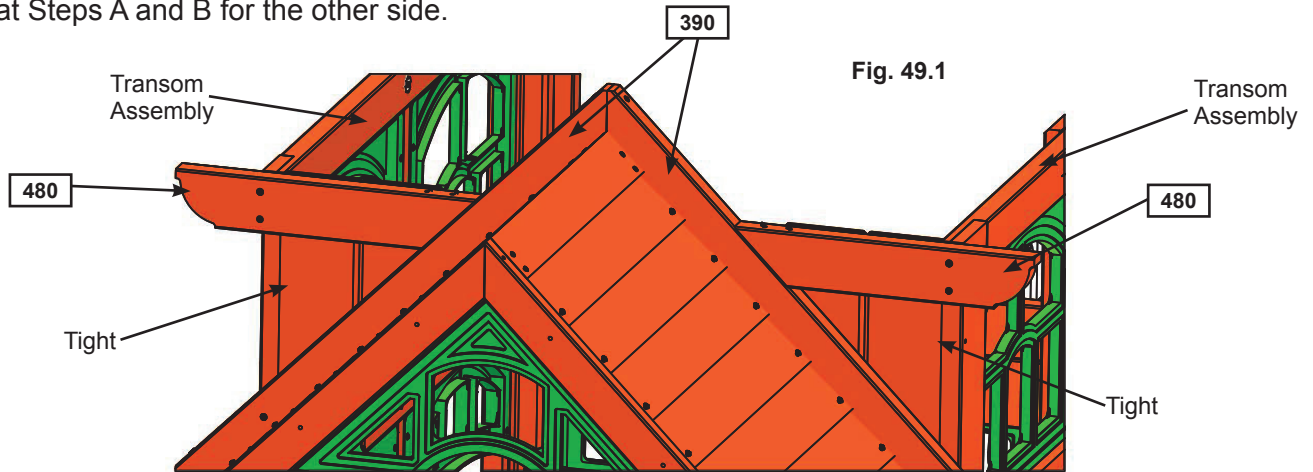

Fig. 49.1
A: Tight to 1 Transom Assembly and flush to the bottom of (390) Mid Roof Support attach 1 (490) Transom Board A to (390) Mid Roof Support and (480) Long Roof End with 4 (S20) #8 x 1-3/8" Wood Screws. (fig. 49.1 and 49.2)
B: Tight to (490) Transom Board A and flush to the bottom of (390) Mid Roof Support attach 1 (491) Transom Board B to (390) Mid Roof Support and (480) Long Roof End with 4 (S20) #8 x 1-3/8" Wood Screws. (fig. 49.1 and 49.2)